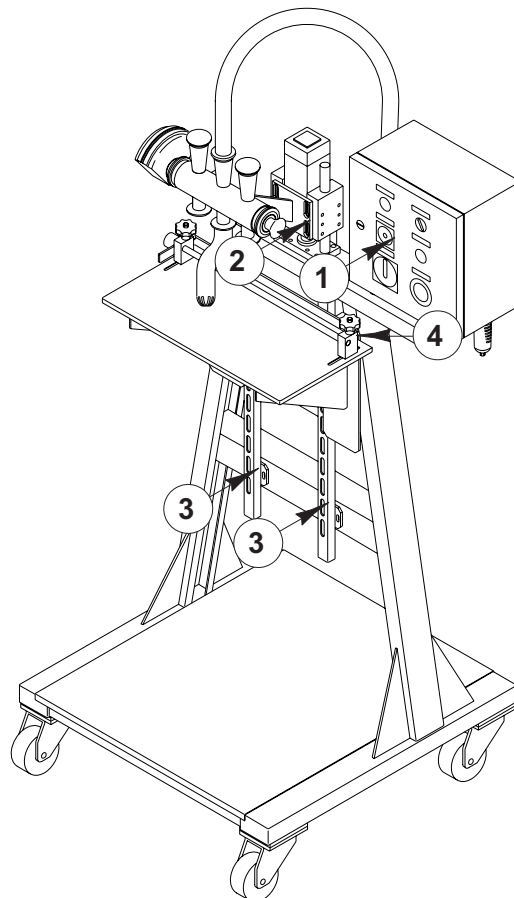

Fig. 5.1
Use the timer (*Position 1, Figure 5.1*) (doser time) to adjust the dosing time and the breaks
- Adjust the doser height using the support axles (*Position 2, figure 5.1*).
- Release the shelf from the rack (*Position 3, figure 5.1*)
- Hook the shelf back up to the rack (*Position 3, Fig. 5.1*).
- Loosen the cursor's locking knobs (*Position 4, figure 5.1*)